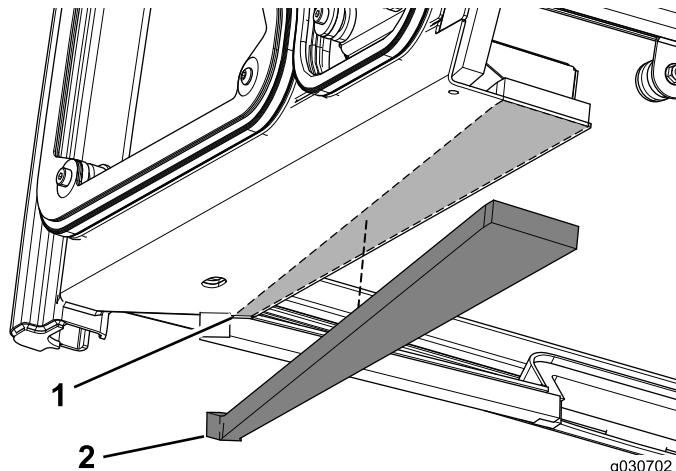

Figure 12
1. Apply the left foam seal approximately 3 mm (1/8 inch) from the edge on the front, left section of the cab unit (Figure 12).